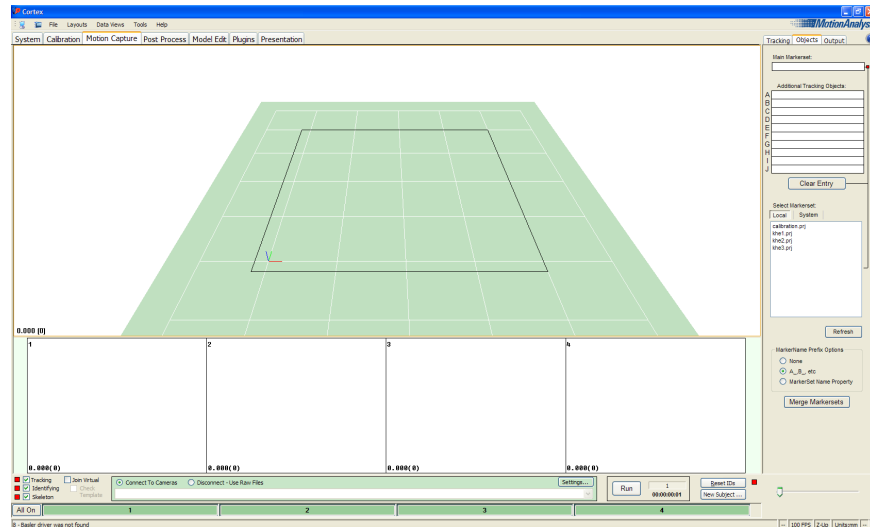

Figure 6: Cortex with 2 pane view.
- Click in **Connect to Cameras**. A pop-up will present the number of cameras found. Your program should look like figure 6.